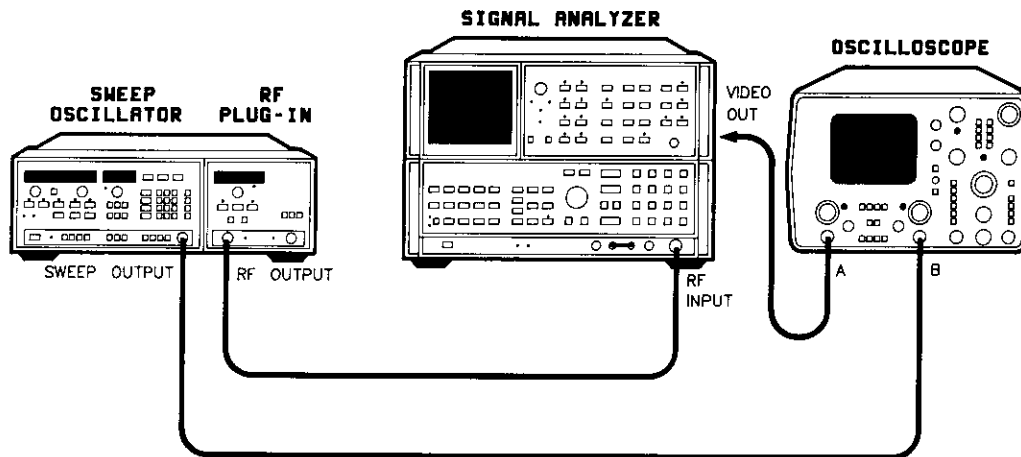

Figure 5-24. Band Overlap Adjustment Test Setup
1. Connect the equipment as shown in Figure 5-24. Allow the equipment to warm up for 1 hour.